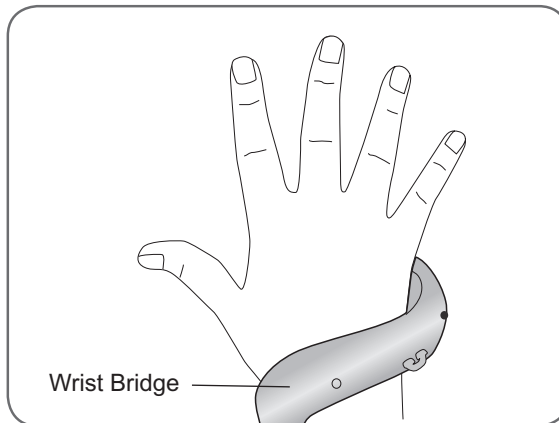

Figure 8-8: Positioning the Wrist Bridge
2. Position the Orthosis Wrist Bridge comfortably on the back of your wrist. See Figure 8-8.